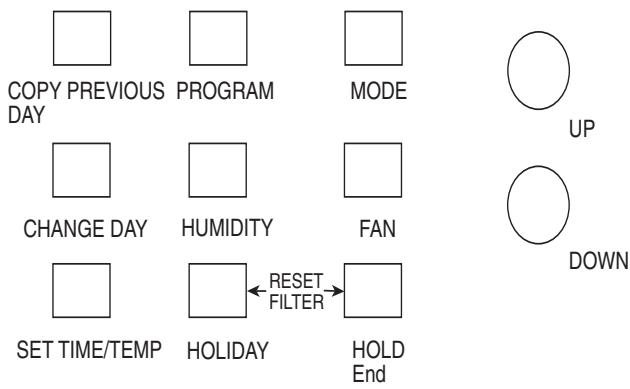

Fig. 15 — Light Commercial Thermidstat Keypad
Step 4 — Set Light Commercial Thermidistat Configuration (Fig. 15 and 16)